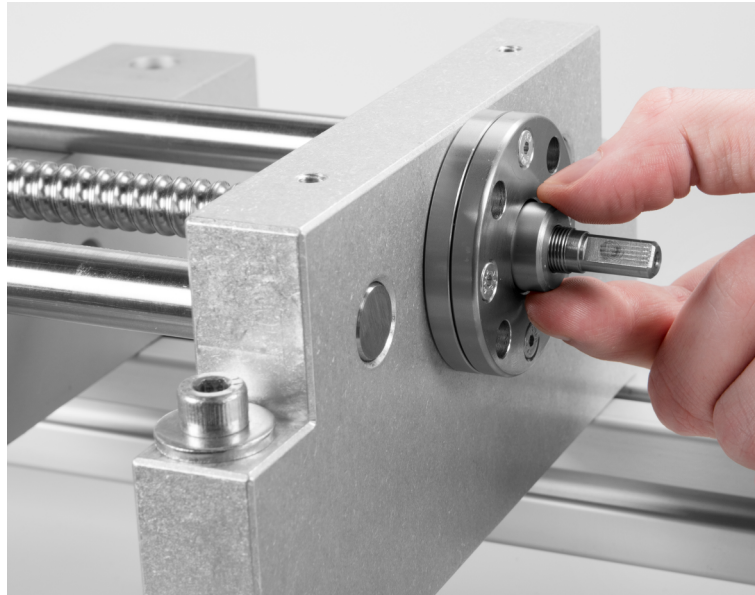

Figure 38: Inserting the spacer inside the flange cover.
35. Locate the spacer. Slide it on the flange end of the ball screw and insert it completely inside the flange cover, as shown in Figure 38.